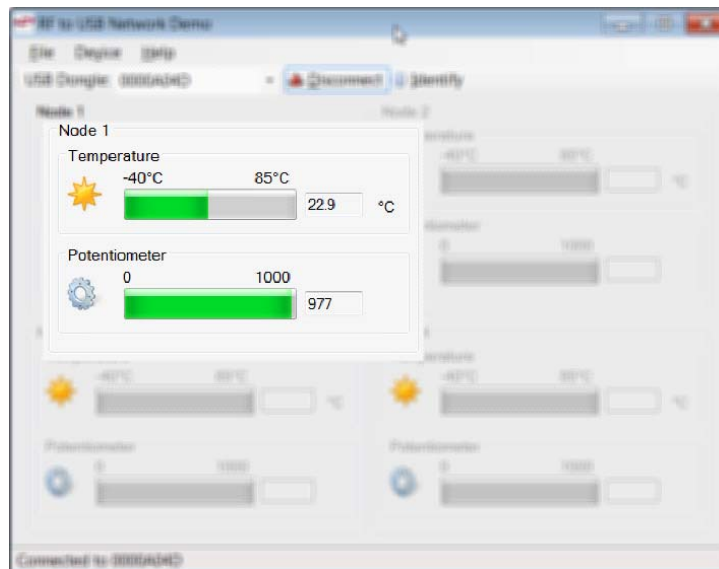

Figure 7. First Node Assigned as Node 1
b. Note that the first board is assigned as Node 1 (Figure 7).